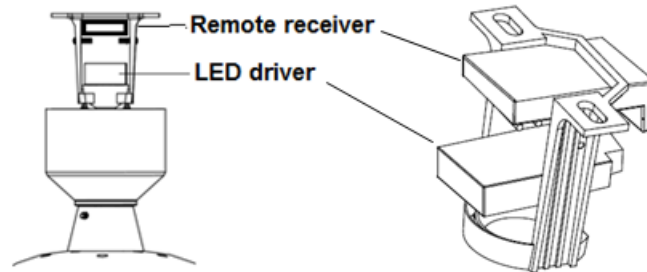

Fig. 4
1. Carefully lift the fan and place the down rod ball assembly into the spacing allocated in the mounting bracket and lock the ball into place. Insert the LED driver into the lower layer of the mounting bracket and then insert the remote receiver into the top layer of the mounting bracket. **Fig. 4**